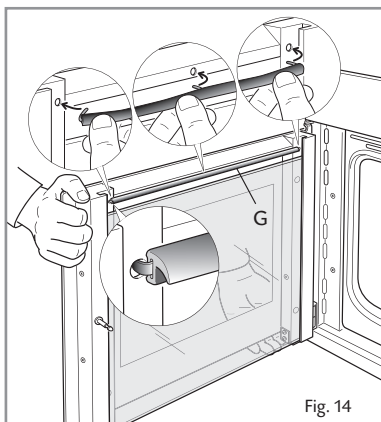

Fig. 14
- Reassemble the seal **G** in the correct way (fig. 14) by hooking the no. 3 fixing hooks in the proper holes.